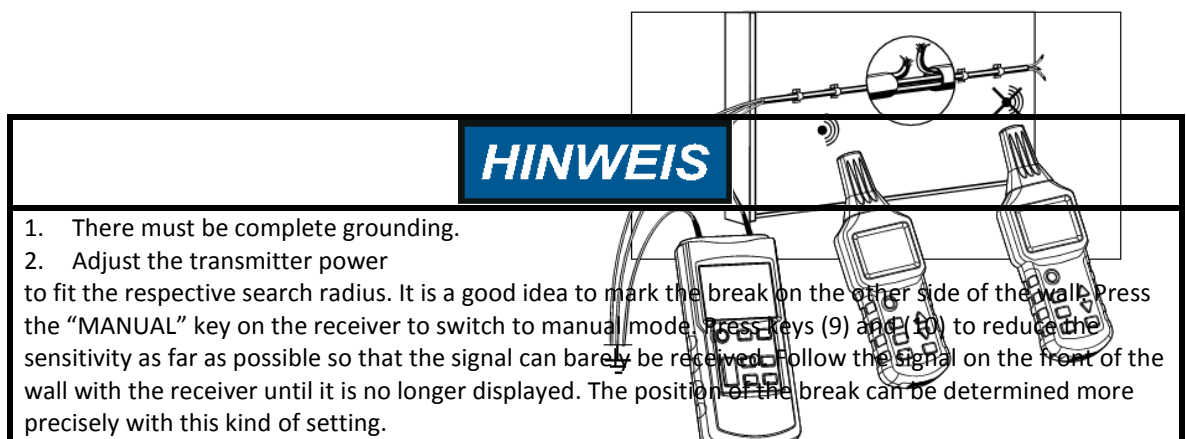

Fig. 2-2
For this example you will need a length of shielded cable with a 1.5 mm² cross section. Install 5 m of the cable temporarily on a wall at eye level using nail clamps. The wall should be accessible from both sides. Make a break in the line 1.5 m away from the transmitter connection. The wire connections must be open and accessible. Cover up the interrupted wire strands at the break and connect the cable to the transmitter terminal (10) using the supplied test leads. Connect the terminal 11 of the transmitter to a suitable ground connection. All other strands in the cable should also be connected to the transmitter and the same ground. (see Fig. 2-2).